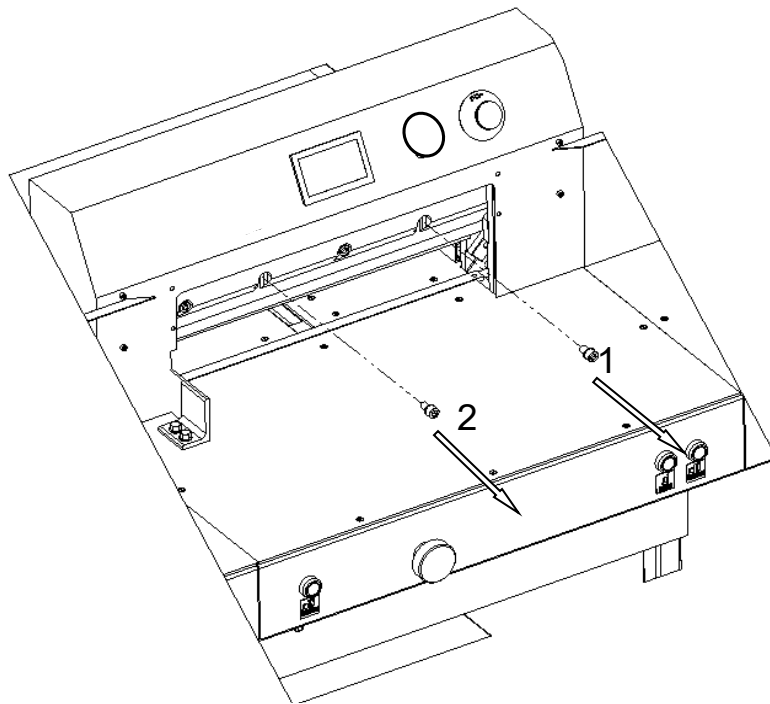
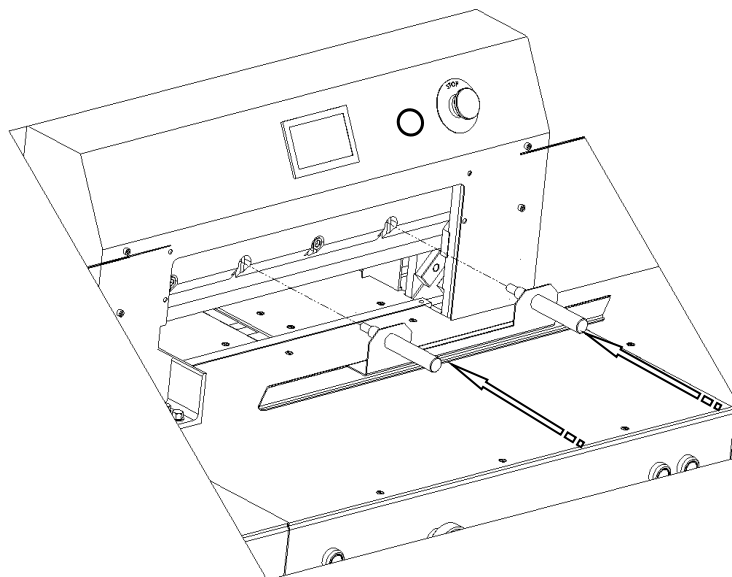

Figure 23.
Figure 24.
8.1.1.9 Unscrew and remove the fastening screws 1 and 2 (Fig. 23).
8.1.1.10 In the place of screws 1 and 2 removed (fig.23), screw in the transport handle 1 (fig.24).